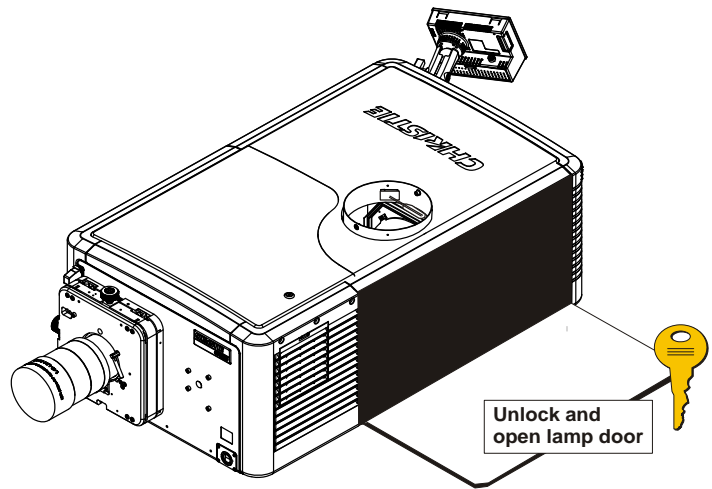

Figure 5-7 Open Lamp Door
1. Unlock and open the lamp door (**Figure 5-7**).
4. Open the lamp door (Figure 5-7).